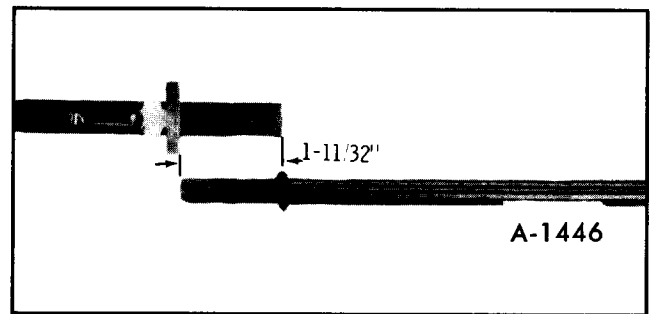

Figure 39—Oil Pump Shaft Extension
NOTE: Do not attempt to remove the washers from the drive shaft extension. The drive shaft extension and washers must be serviced as an assembly. See Figure 39.
9. Spread rods with screwdriver and measure the rod side clearance as shown in Figure 39. Clearance should be .006" to .020".